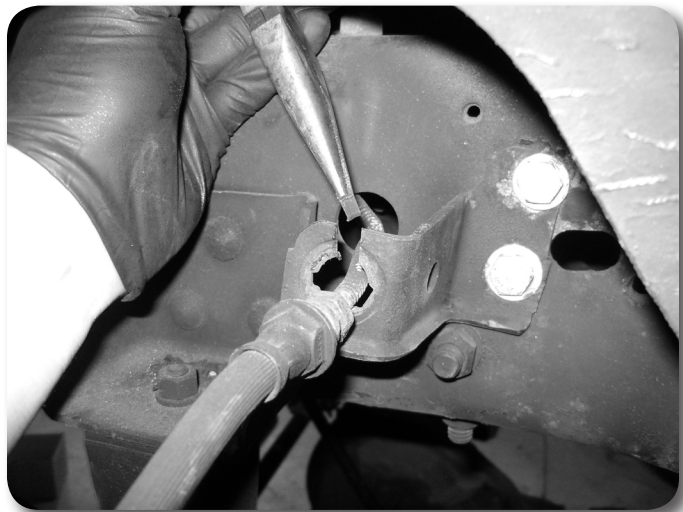

Figure 4
10. With the brake line fitting pulled out of the mount bracket, carefully cut a 1/4" wide slot in the top of the bracket through to the brake line hole. **Figure 4** This will allow the brake line to be removed from the bracket without disconnecting the brake line. Remove the brake hard line from the bracket.